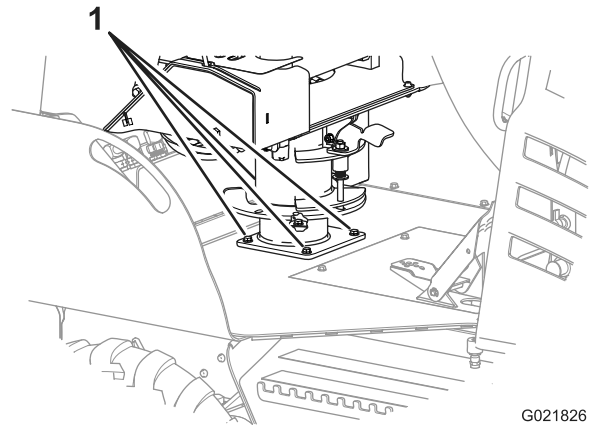

Figure 95
2. Check that the 4 bolts that secure the seat to the chassis of the machine are torqued to 5.4 to 6.8 N-m (48 to 60 in-lb); refer to Figure 95.